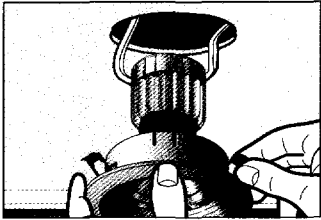

Figure 6
- 5. Compress springs and insert each fixture into opening. (see figure 6)